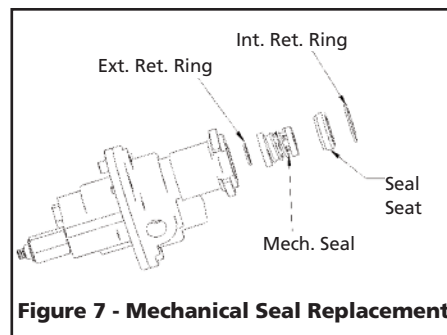

Figure 7 - Mechanical Seal Replacement
1. Install the mechanical seal over the shaft by wetting it with water and sliding it gently to its position. Lock the spring retaining washer with circlip and locate the carbon ceramic stator facing towards the keyed end of the drive shaft (Fig.7)